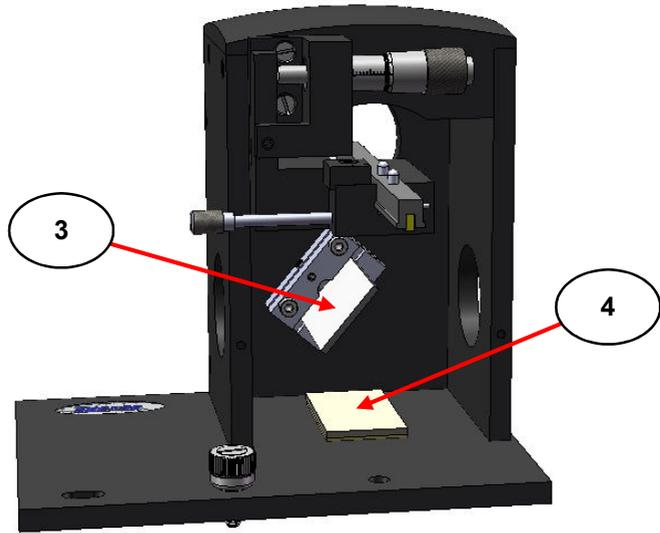
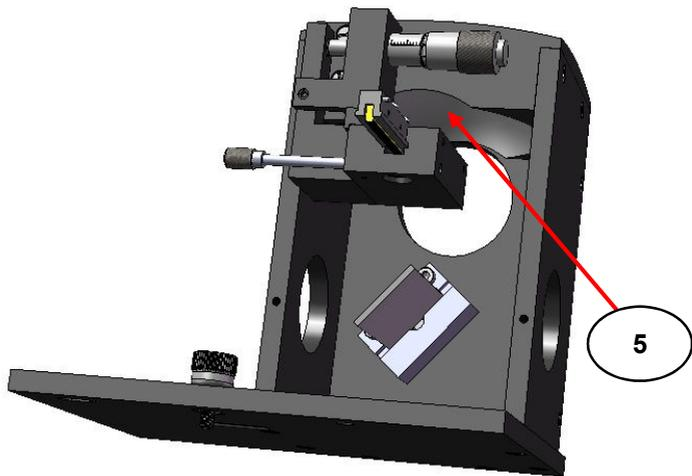

Fig 2. Minidiff Plus Flat Mirror Assemblies Below Sample Position
Fig 3. Minidiff Plus Ellipsoid Mirror Above Sample Position
3. Remove all the protective covers from the flat mirrors (3) and (4) and check the ellipsoid mirror (5). (See Fig 2. and Fig 3).
4. With the protective mirror covers removed, replace the front metal cover plate (2) and tighten (turn clockwise) the front metal cover plate thumbscrews (1) to re-secure.